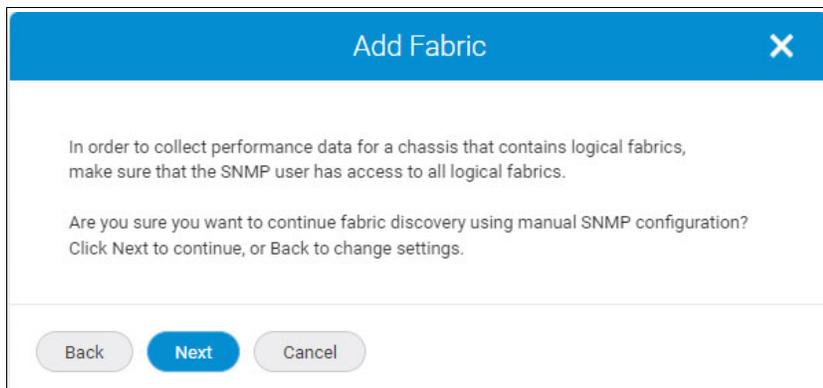

Figure 4-12 Add Fabric with manual SNMP configuration
6. If you selected Manual SNMP Configuration, SANnav prompts you to ensure that the SNMP user has access to all logical fabrics, as shown in Figure 4-12. Click **Next**.